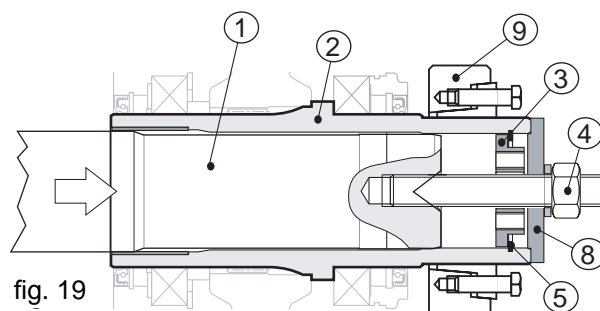

fig. 19
Now insert the backplate (pos. 3), the inner retaining ring (pos. 5) and the backplate (pos. 8). Now when you tighten the threaded rod nut, the two shafts will abut against each other (see Fig. 19).